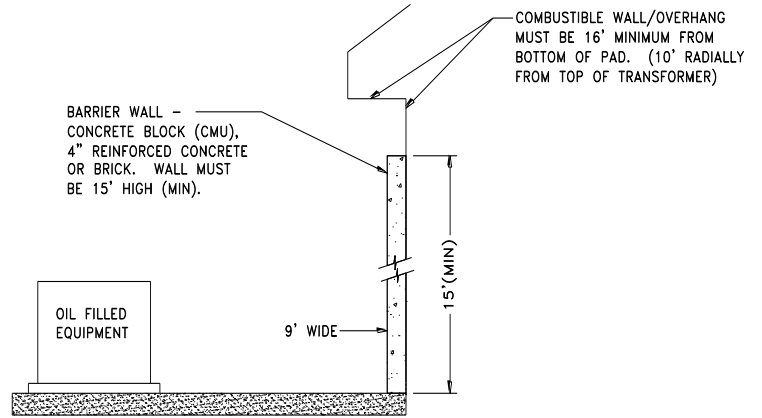

FIGURE 3A
* Most outside walls are combustible. Stucco on wood framing is combustible, stucco on metal framing is non-combustible. Consult the local building codes and fire codes to determine what materials constitute a non-combustible 1 hour fire rating. Clearances between pad mount equipment and structures must be measured from the closest metal portion of the equipment to the closest point on the structure (including overhangs) see figure 3A.